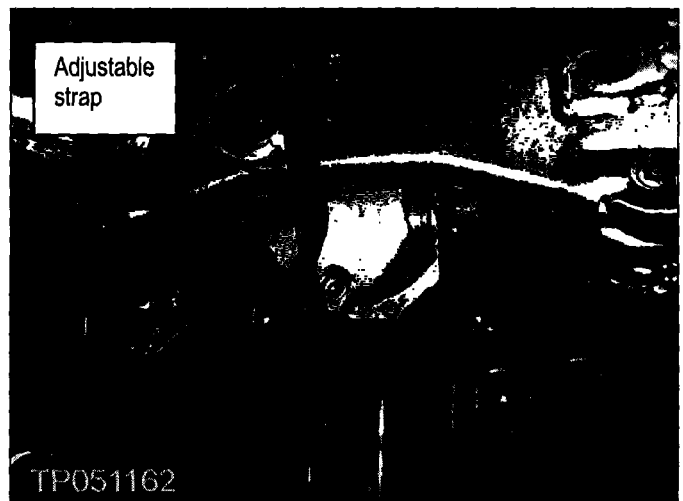

Figure 33
27. Secure the transmission jack to the rear differential with an adjustable strap (or other suitable "tie-down" device). See Figure 33.